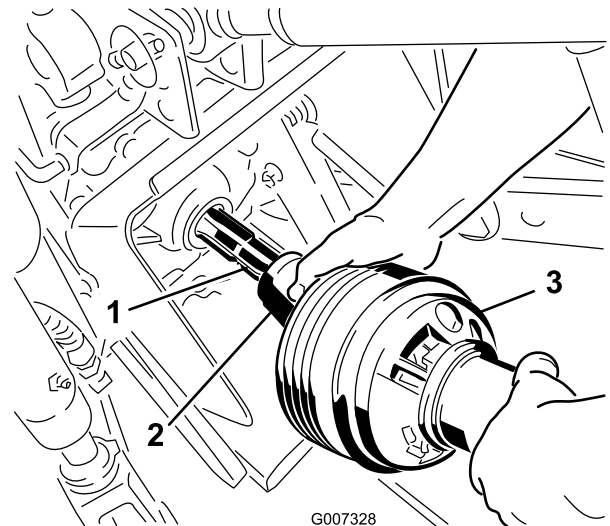

Figure 18
- Connect the PTO shaft to the tractor PTO shaft (Figure 18).